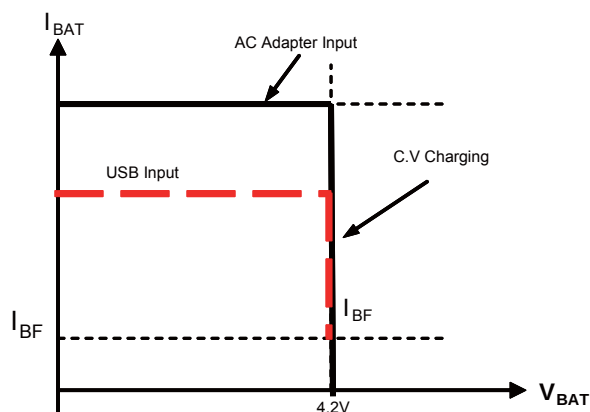

Figure 2—MP26056 Typical Charging Profile
Figure 2 below shows the typical charging profile for the MP26056. The MP26056 will start with the Constant Current charge of the programmed value (I_{CHG}) based on R_{SETx} . This is referred to as Constant Current (CC) mode. Once the battery voltage reaches 4.2V, the charger will operate in the constant voltage (CV) mode until the battery is fully charged. The charge current drops during CV mode, and the battery full indication is set when the charge current reduced to the preset value based on R_{IBF} , but the charger keeps charging the battery until battery reach 4.2V when AC adaptor is used as supply. If USB is